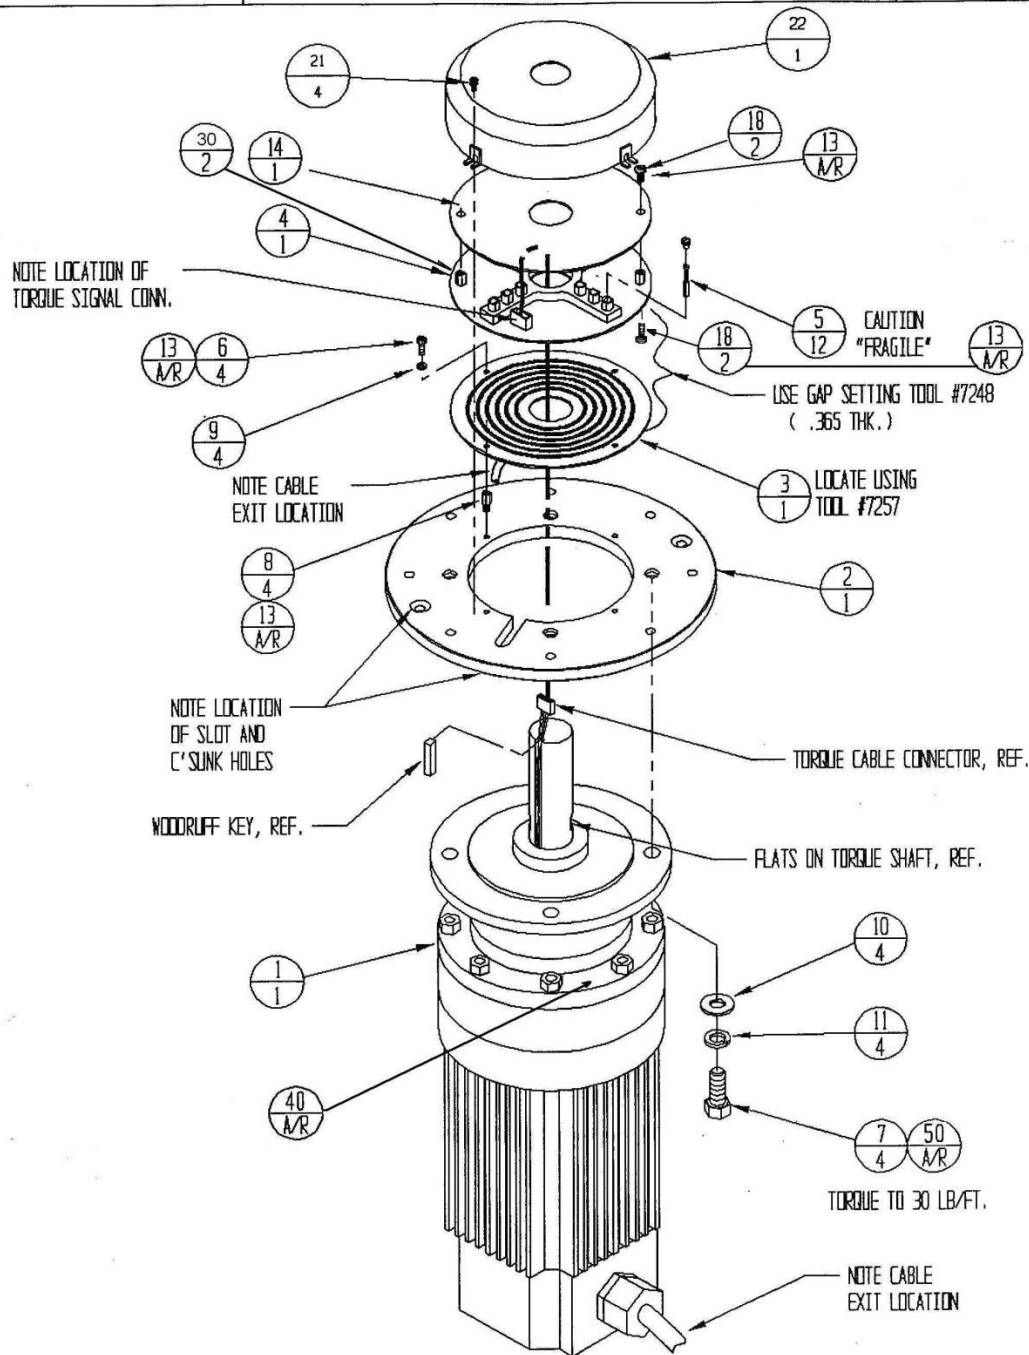

Figure 9 Dynamometer Exploded View
- 2.12. Remove the metal EMI Can (Figure 9 – Item 22) from the dynamometer.
- 2.13. Remove the Torque Board Shield (Figure 9 – Item 14).